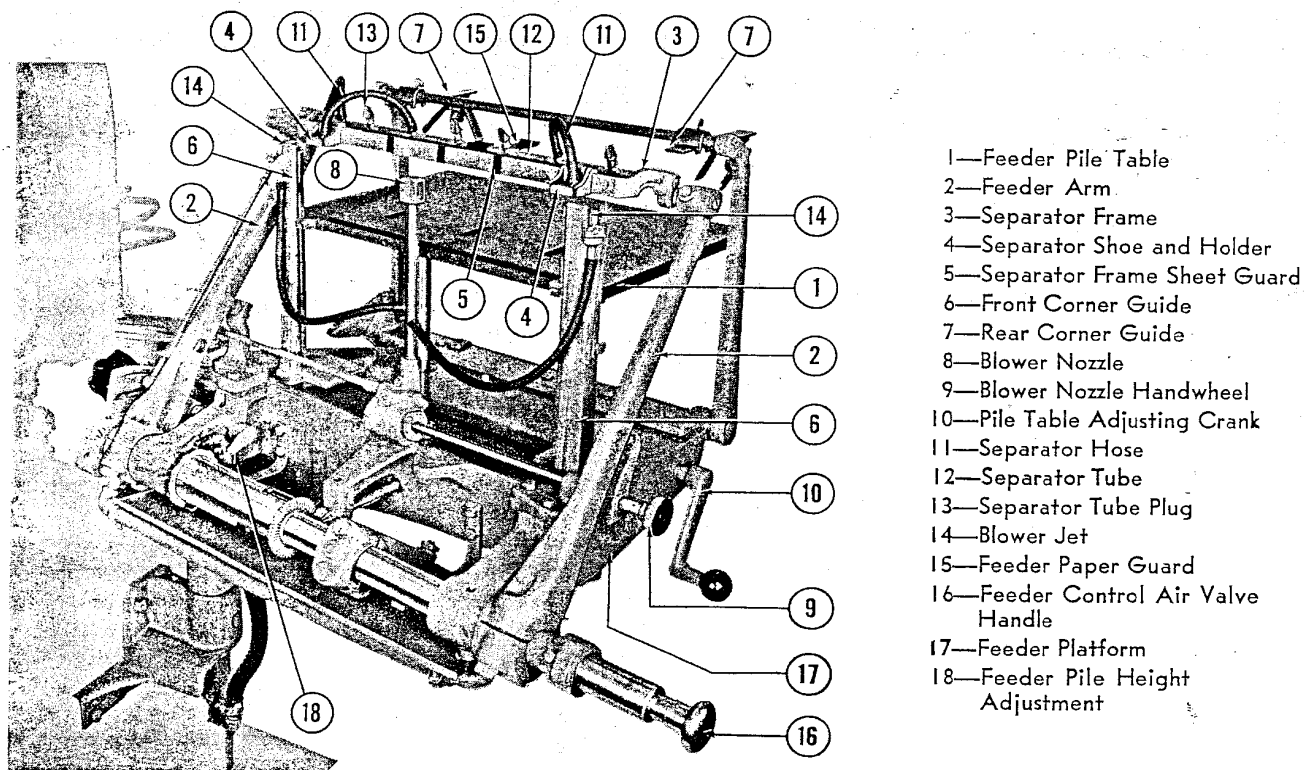

Figure 3—Feeder
a. FEEDER. (See figure 3.)—The feeder consists of the pile table (1) and its raising mechanism; feeder arms (2) and separator frame (3) to which are attached feeder shoes (4) and holders and sheet guards (5); front and rear pile guides (6) and (7), adjustable feeder blower nozzle (8), and feeder control air valve assembly. These units are mounted on a platform (17) which may be swung away from the press, permitting access to the impression cylinder and inking mechanism. This allows for loading of stock on the pile table while pressman is working on make ready.